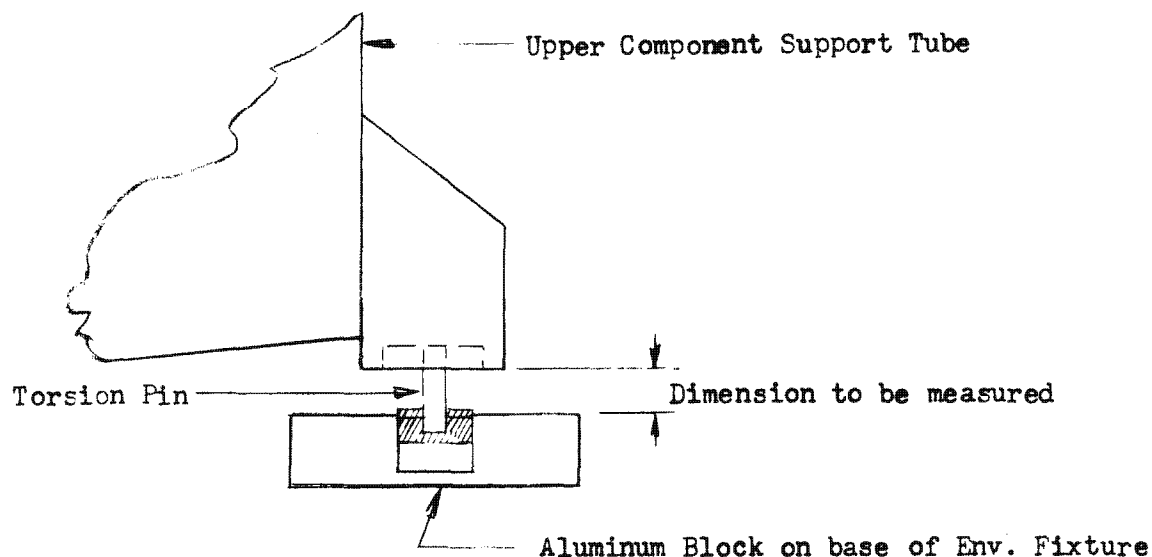

FIGURE 2
- 5.2.2 Using gage blocks or adjustable parallels, measure the clearance between the torsion pin holder and the block on the Main Environmental Fixture, as shown in Figure 2. Subtract the measured value from 209-300 and record the result on the data sheet.